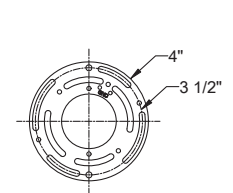

Fig.1 MOUNT ON SWITCH BOX
MOUNTING THE FIXTURE ON SWITCH BOX (Fig. 1)
1. Install compatible junction box (by others) to the framing structure. Ensure the junction box is flush with the base or front of framing structure (See FIG. 1).